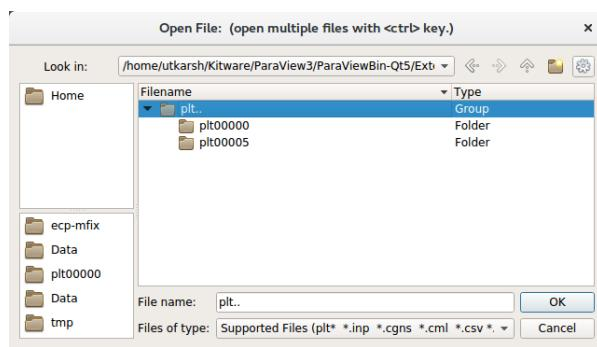

Fig. 14.2: : File dialog in ParaView showing a group of plotfile directories selected
1. Run ParaView v5.5, and select then “File” → “Open”. You will see a combined “plt..” group. Click on “+” to expand the group, if you want inspect the files in the group. You can select an individual plotfile directory or select a group of directories to read them a time series, as shown in Fig. 14.2, and click OK.